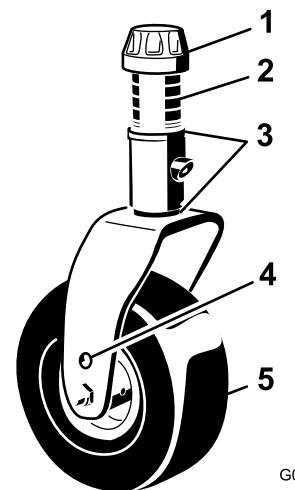
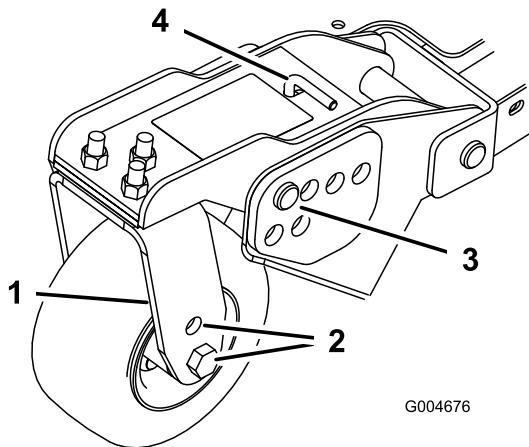
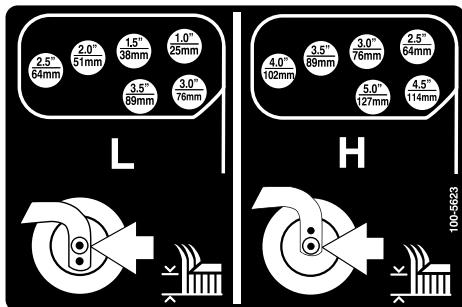

Figure 18
Figure 20
Figure 21
- Position the caster-wheel axles in the same holes in all of the caster forks (Figure 18 and Figure 20).
- Remove the tensioning cap from the spindle shaft and slide the spindle out of the caster arm (Figure 18).
- Remove the hairpin cotter and clevis pins from the caster-pivot arms (Figure 20).
- Rotate the tension rod to raise or lower the pivot arm until the holes are aligned with the selected height-of-cut bracket holes in the mower-deck frame (Figure 20 and Figure 21).